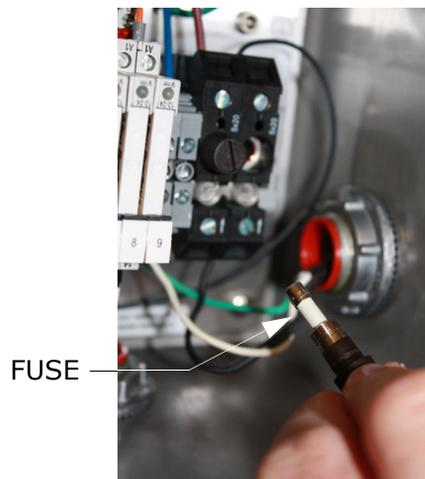

Figure B-2 Replacing fuse
- Remove the fuse from the cover and replace with a new fuse as shown in Figure B-2 below. Refer to Table 1-1 on page 1-12 for fuse specifications.